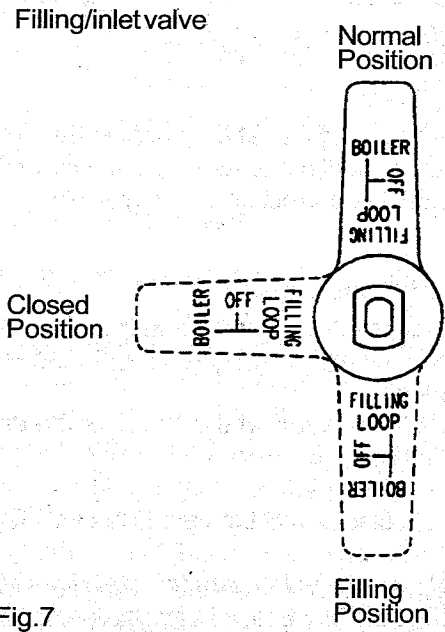

Fig.7
- (iii)** Vertically down - Filling position. See fig. 7. To fill slowly turn the handle of the filling/inlet valve past the closed position towards the filling position. Mains water will be heard to enter the system/boiler. As the water enters the system/boiler the pressure gauge will be seen to rise. Pressurise to between 1bar & 1.5bar when the system is cold. **DO NOT OVERPRESSURISE.**